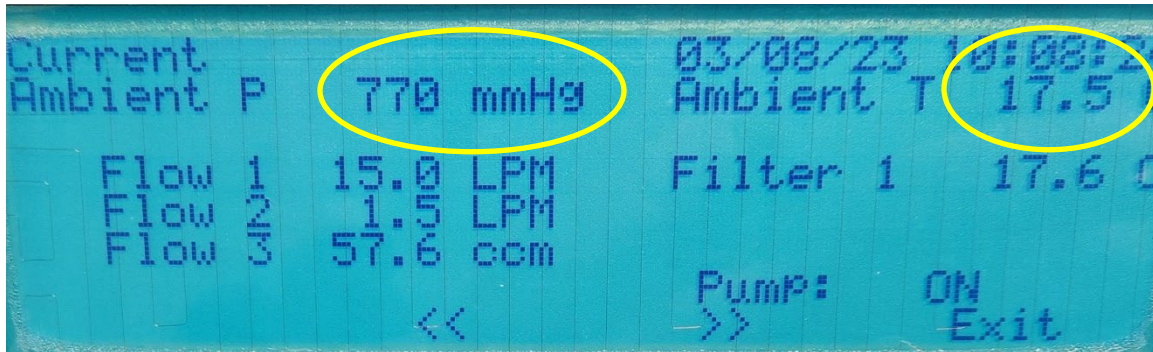

Figure 29: Current Event showing Current Ambient Pressure and temperature.
- 3.5.9 On the field data sheet (FDS), record the starting date and time, air sampler ID, station operator, starting flows, flow meter numbers, and agency. Using the "<<" and ">>" arrows in the system display, cycle through the various screens to observe and record the ambient temperature and pressure on the FDS (Figure 29).